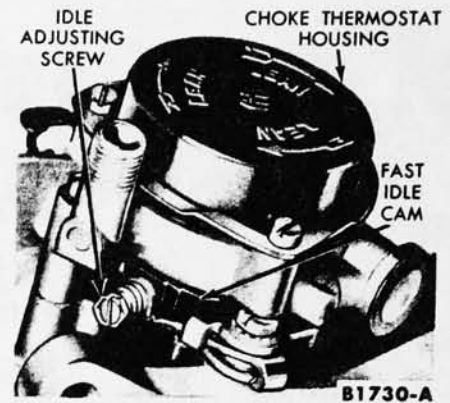

FIG. 7—Fast Idle Speed Adjustment
3. Set the fast idle speed (cold) with the engine at normal operating temperature. Align the high step on the fast idle cam with the adjusting screw (Fig. 7). Turn the screw in-
Automatic Choke Adjustment. The automatic choke has an adjustment to control its reaction to engine temperature. By loosening the three screws that retain the choke thermostat housing (Fig. 7), it can be turned to alter the thermostatic spring adjustment. Turning the housing in a counterclockwise direction provides a richer mixture, and conversely, a leaner mixture is obtained by turning the housing in a clockwise direction as indicated by the arrows on the housing. Refer to the specifications for the proper setting.